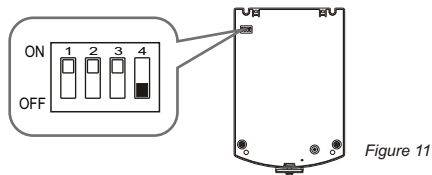

Figure 11
- a. Setup DIP Switches which are located at the bottom of Mini Hopper (as figure 11) according to interface.